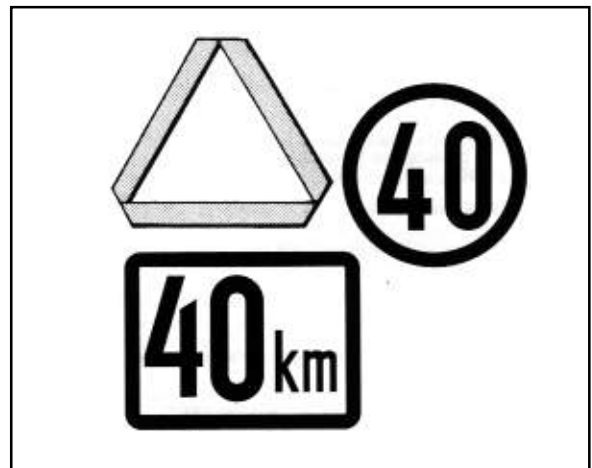

Fig. 15
- Make sure that it has the reglamentary plaques well placed (Fig. 15)